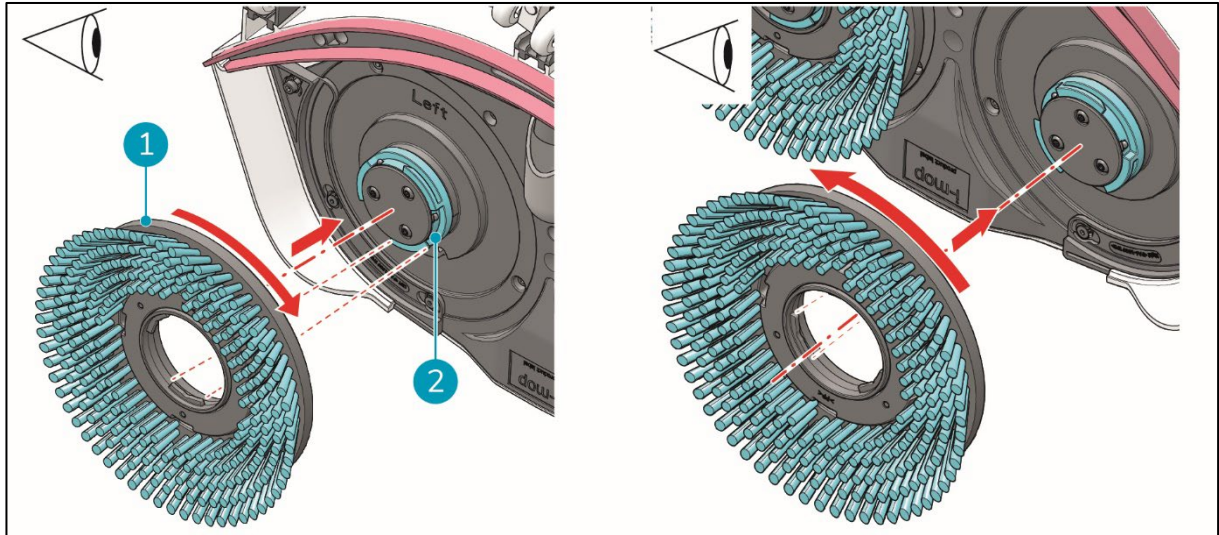

Figure 10
3. Align the left brush (Figure 10, pos. 1) with the left motor disk (Figure 10, pos. 2). Align the latches and cut-outs in the brush and motor disk.